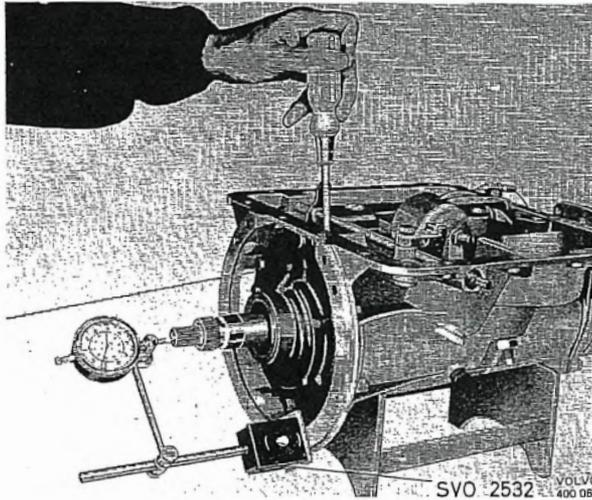

Fig. 4-78. Checking end float
21. Set up the dial indicator gauge as shown in Fig. 4-78 with plate 2532 and magnetic attachment. Place the point of the gauge against the shaft end, move the shafts and gears backwards and forwards and read off the end-float. This should